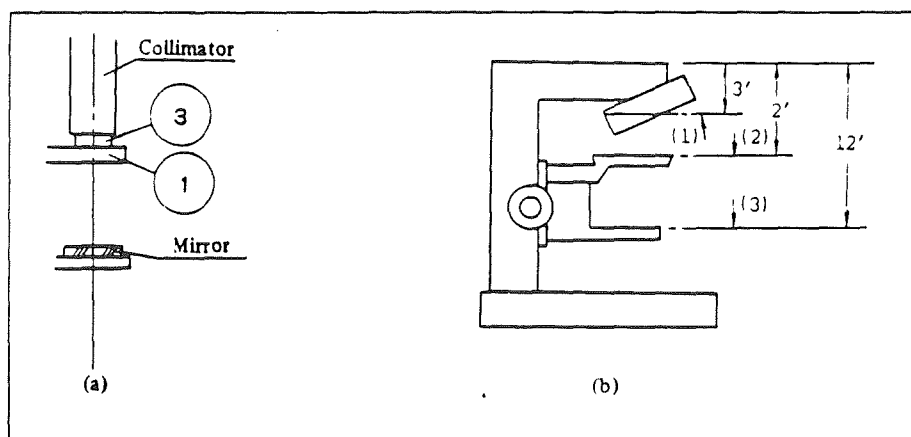
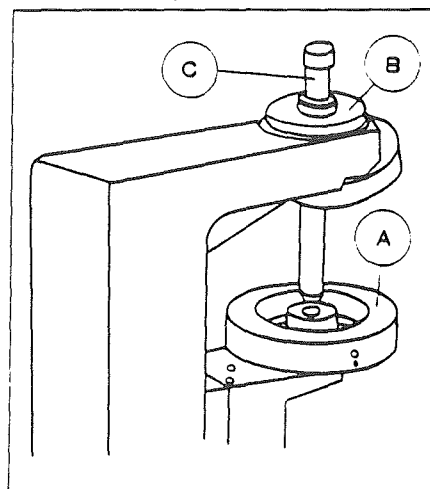

Fig. 44
Fig. 45
- 1) Bringing the tool collimator onto the top surface of tube receptacle (3), check the parallelism using a mirror placed on the surfaces (1), (2) and (3) one after another, as shown in Fig. 44.
- 2) The parallelism should be within the range as indicated in Fig. 44(b).
- 1) Place the part (B) of the tool, as shown in Fig. 2 (P. 3) on the tube receptacle (3). Set the part (A) onto the stage attaching surface of the substage. (Fig. 45)
- 2) Push the part (C) against the part (A) from above. If the former enters the latter, it proves correct centering.
- 3) If not, make adjustment, using the two upper screws of (43A) x4 behind the arm, so that the part (C) enters the part (A). Thereafter, make parallelism adjustment, using the lower two screws.
- 4) Smooth insertion of the part (C) into the part (A) ensures the parallelism within the range as shown in Fig. 44(b).